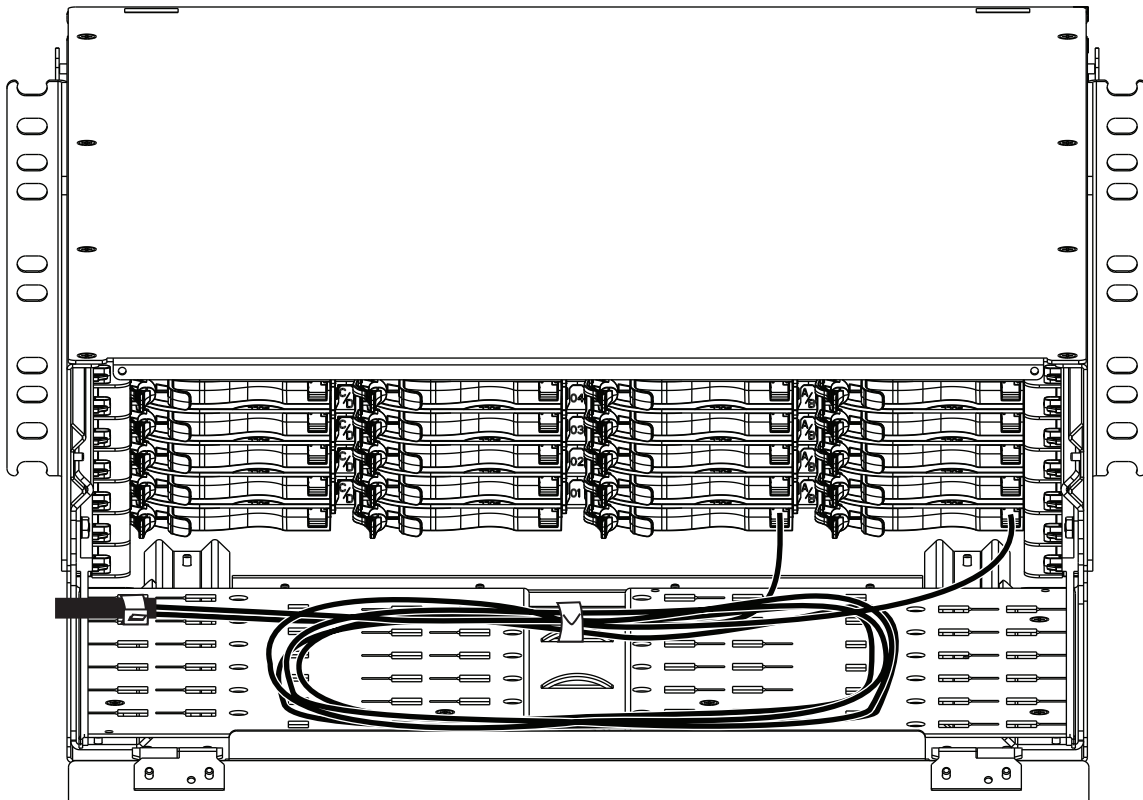

Figure 11
6.1 Starting in the lower right corner of the housing as viewed from the rear (Figure 11), install the first cassette